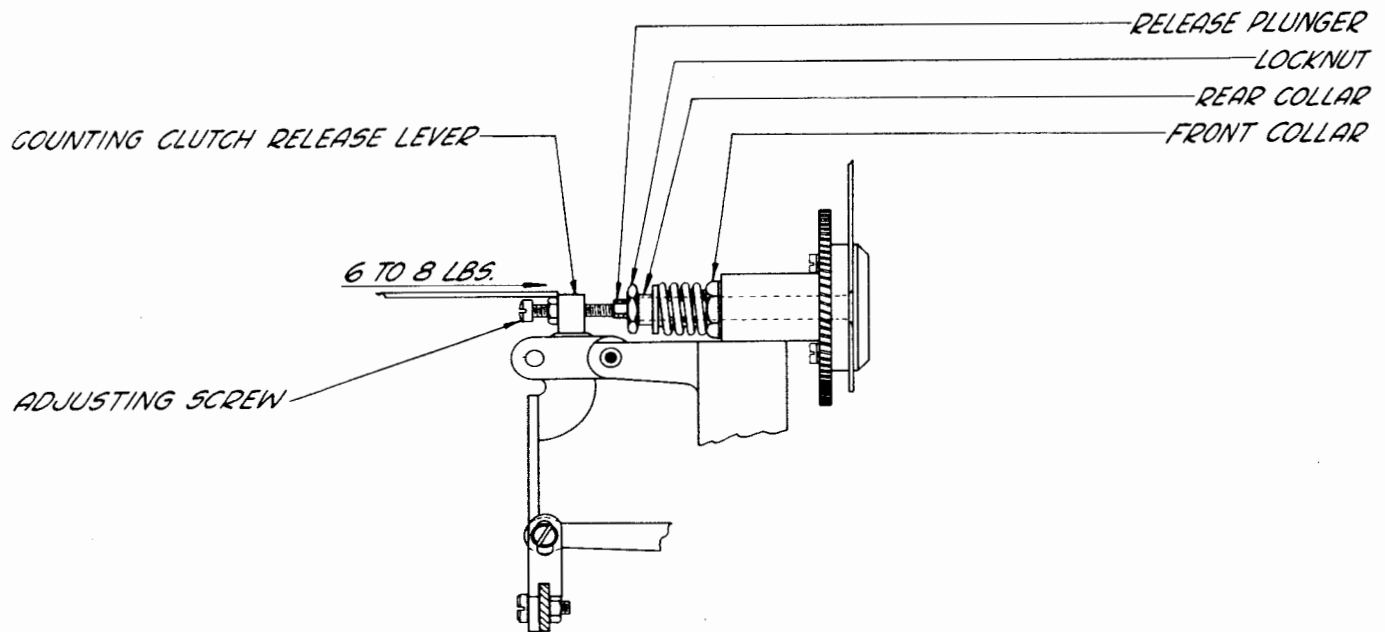

Figure 25
2.54 Counting-pointer Clutch Spring: Remove the motor handwheel, if necessary, and move the counting pointer to the right end of the scale. With the push end of a scale applied to the rear of the counting-clutch release lever, just above the adjusting screw locknut, a push of minimum 6 pounds, maximum 8 pounds, should be required to release the pointer. See Figure 25.
2.55 Counting-pointer-clutch Release: With the counting-clutch release-lever adjusting screw backed off and the return-bail roller on the high part of its cam, move the counting pointer to its extreme right position, and turn in the adjusting screw until the pointer is released, allowing it to return to its starting position. Advance the screw one-quarter of a turn, and tighten the locknut. See Figure 25.